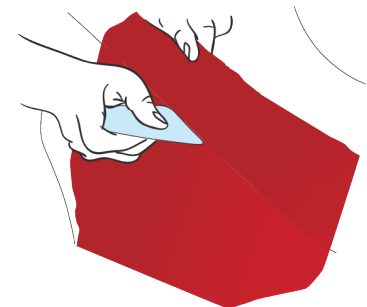

Figure 30
- Trace the contours of the area with your finger. Lift the vinyl of the adjacent part and drag it into the hollow using a squeegee so as to mark the seal edge. (FIG. 30)